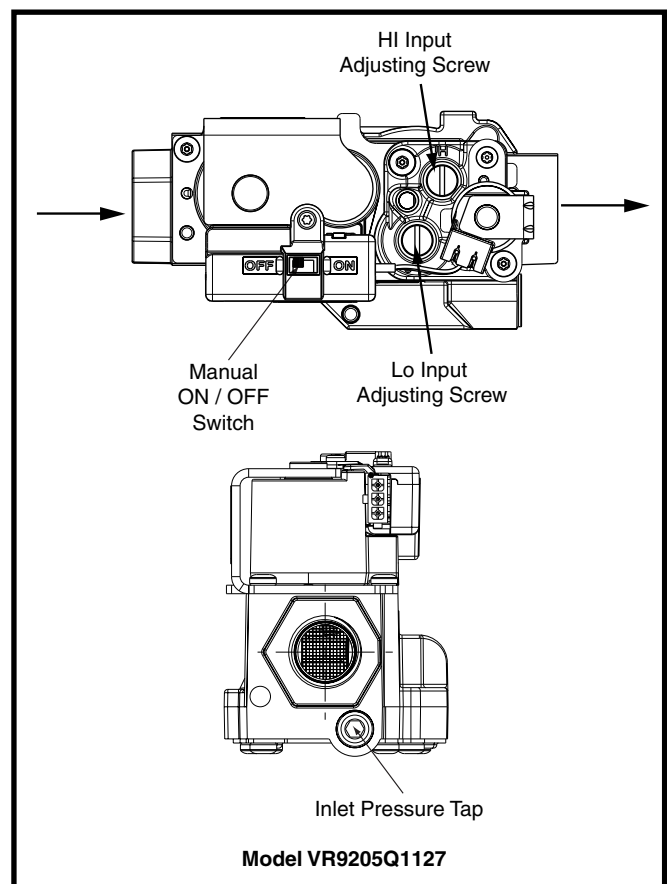

Figure 21. Gas Valve
- Remove the regulator capscrew from the INLET side of the regulator. See Figure 21.
3. Move the manual ON/OFF switch to the OFF position. See Figure 21 \(page 24\).